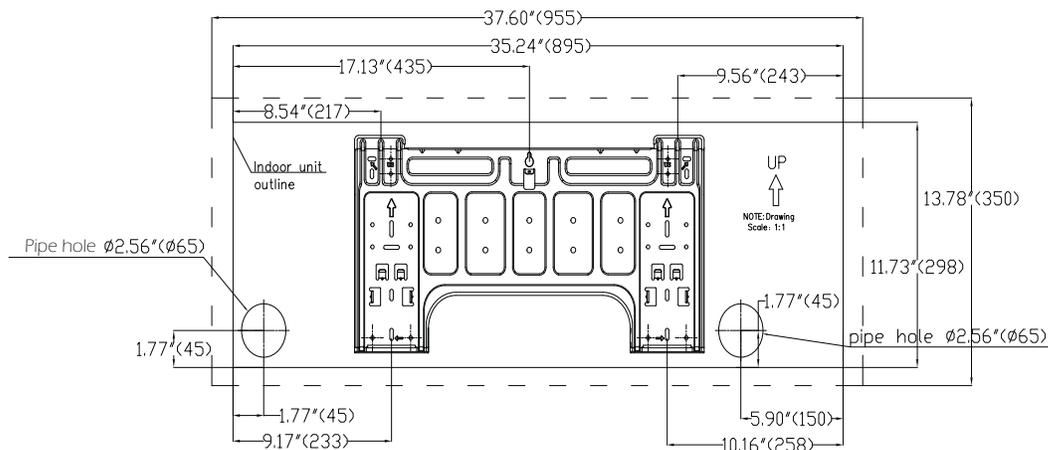

Fig. 2 – Sizes 9K and 12K
Different model sizes have different mounting plates. Ensure there's enough room to mount the indoor unit (refer to Fig. 2). The following measurements can be located on these figures:
1. Determine the pipe hole position using the mounting plate as a template. Drill pipe hole diameter per values given in Fig. 2. The outside pipe hole is 1/2-in. (13 mm) min. lower than inside pipe hole, so it slants slightly downward (see Fig. 6).